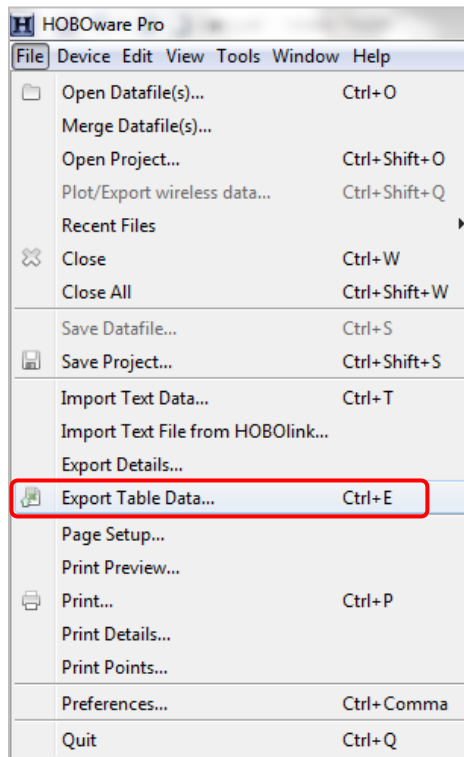

Figure A.9.22: File menu options.
3. Click “File” > “Export Table Data” (Figure A.9.22).